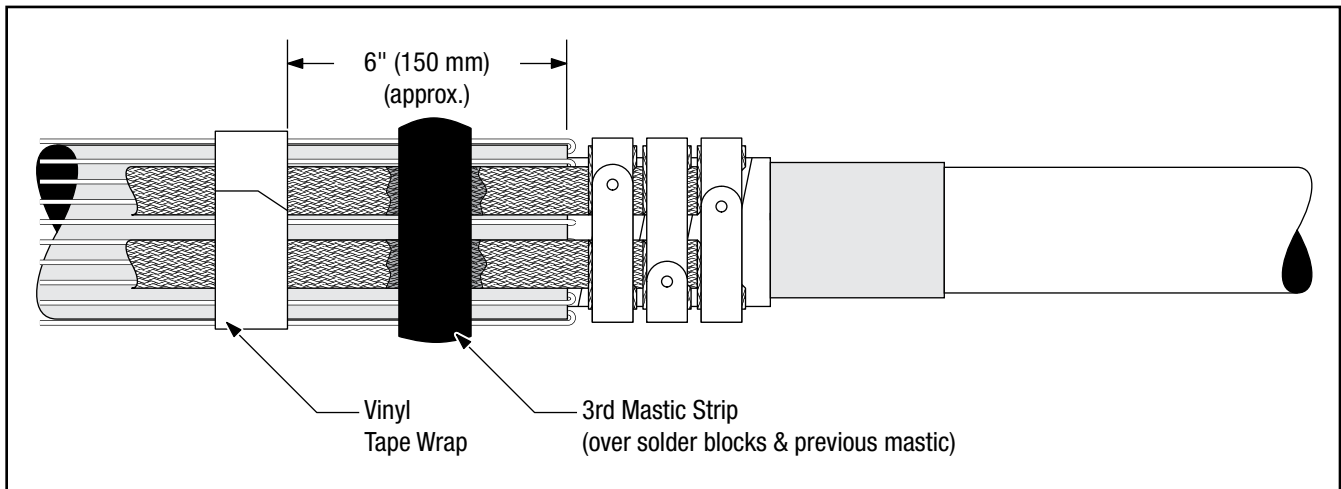

Figure 18
- 4.6 Cut a third length of sealing mastic long enough to wrap over applied mastic and solder blocks. Remove the release liner from the mastic and, using light tension, apply mastic over the shield wires and previously applied mastic. (*Figure 18*)
- 4.7 Secure the shield wires and the two tails of the ground braid assembly to the cable jacket approximately 6 inches (150 mm) from the cable jacket edge with several wraps of vinyl tape. (*Figure 18*)